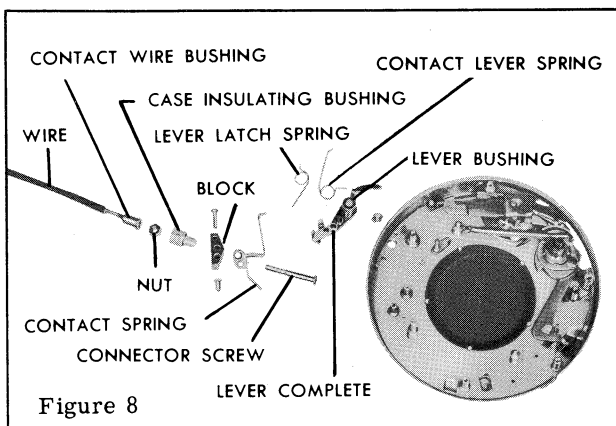

Figure 8
5. **CONTACT WIRE BUSHING**, figure 8, the **contact WIRE**, and the connector screw **NUT**.
2. If a new contact lever is to be used, place the contact **LEVER LATCH SPRING**, figure 8, on the contact **LEVER BUSHING**, with the long end of the spring at the bottom. Lift the long end of the spring and rest it against the outside edge of the spring lug on the contact lever latch. Form the short end of the spring around the vertical part of the contact lever tail. Then place the **CONTACT LEVER SPRING** on the contact lever bushing. Bend the last 1/8 inch of the long end of the contact lever spring clockwise, with respect to the bushing, at least 15 degrees.
2. Place the contact **LEVER LATCH SPRING**, figure 8, on the contact **LEVER BUSHING**, with the long end of the spring at the bottom. Lift the long end of the spring and rest it against the outside edge of the spring lug on the contact lever latch. Form the short end of the spring around the vertical part of the contact lever tail. Then place the **CONTACT LEVER SPRING** on the contact lever bushing. Bend the last 1/8 inch of the long end of the contact lever spring clockwise, with respect to the bushing, at least 15 degrees.